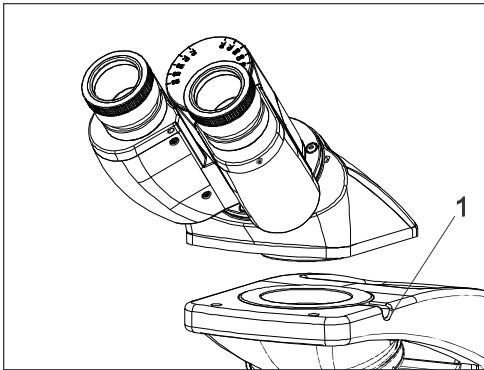

Fig. 11
1. Using allen wrench 3mm (provided), loosen the Head Locking Screw (1) and remove the dust cover cap provided in dovetail cavity as well as on observation head dovetail.
3. Tighten the Head Locking Screw (1) after positioning the Observation Head as desired. See figure 11.